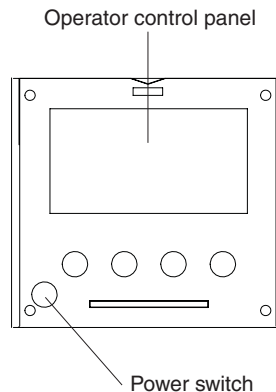

Figure 13. Power switch
3. Press the power switch (see Figure 13).